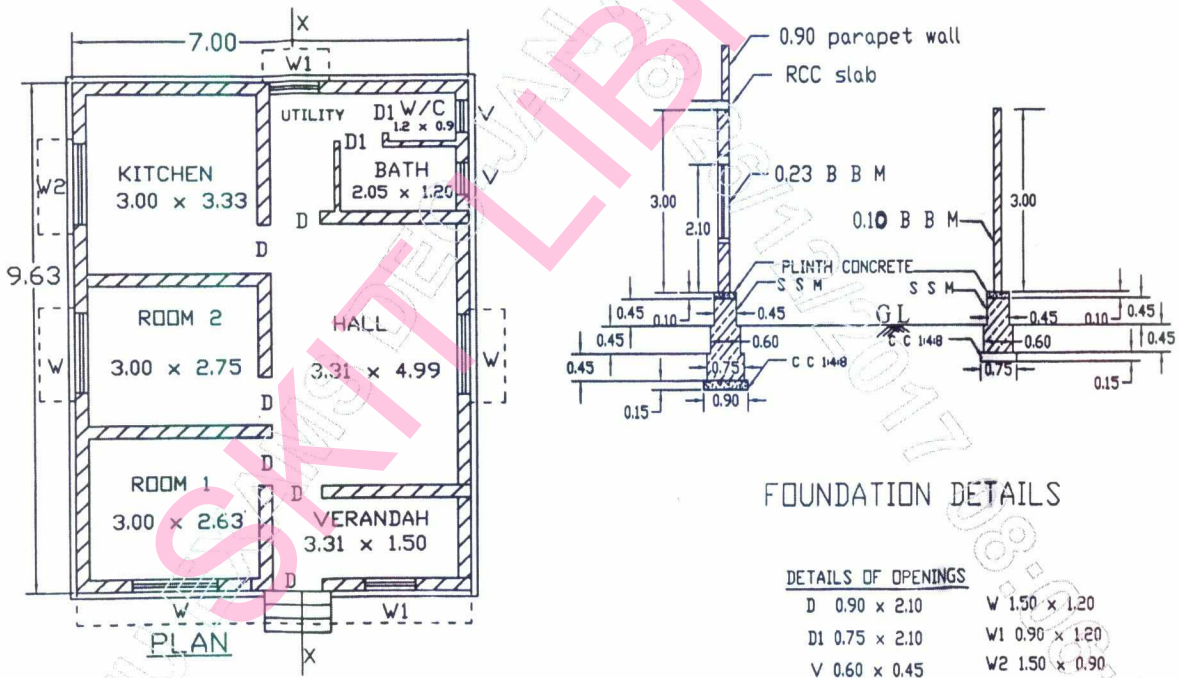

Fig Q1
- 1 The plan and cross section of walls of residential building are as shown in Fig. Q1. Work out the quantities and prepare the cost abstract of the following items of work by centre line method.